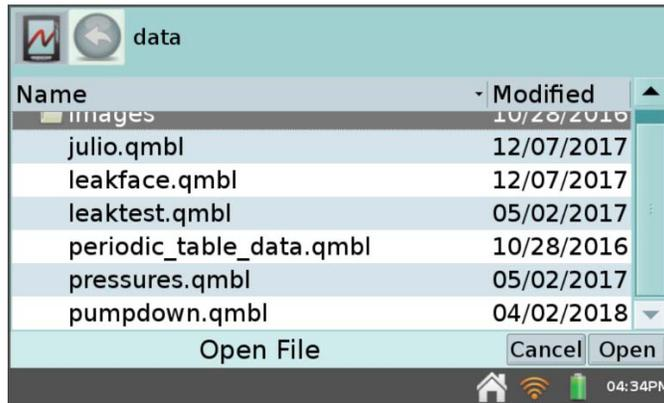

Figure 5 – 'File Menu' from LabQuest.
- Tap on ‘Open’ to access the file list (see Fig. 5).